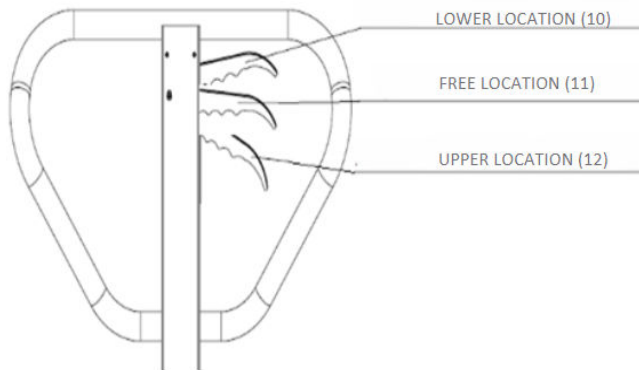

Figure 5
- The pallet truck will be in the lift position when the control lever (See Figure 5, position 12) is brought to the lift position. At this time, if you move the lift arm up and down, it will lift the pallet forks.
- The pallet truck will move when the control lever (See Figure 5, position 11) is moved to the free position. At this time, if you move the lift arm up and down, the pallet truck will not lift and drop the forks. Then you can use the pallet truck to carry loads.
- If the control lever (See Figure 5, position 10) is brought to the Free position, the forks of the pallet truck will also be released. Then the pallet truck forks will lower automatically.
- ▶ After the pallet truck is mounted, operate the control handle in different positions in order to perform the lifting, lowering and free position functions of the control handle (see figure 5) while moving the lift arm up and down. Check whether the operation in different positions is normal.